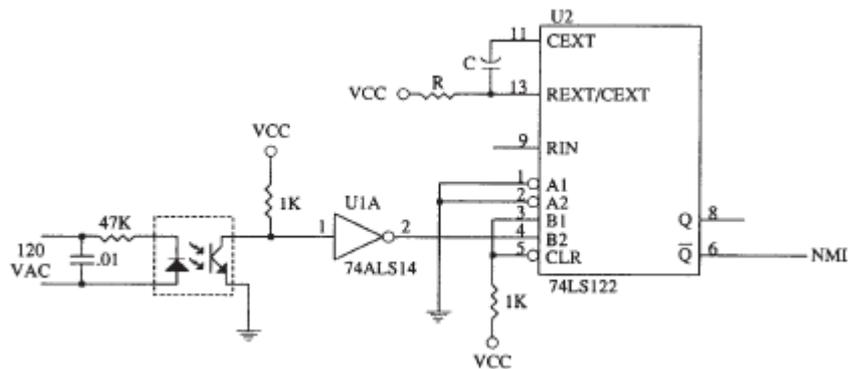

Figure 12-6: A power failure detection circuit
- An optical isolator provides isolation from the AC power line. (Figure 12-6)